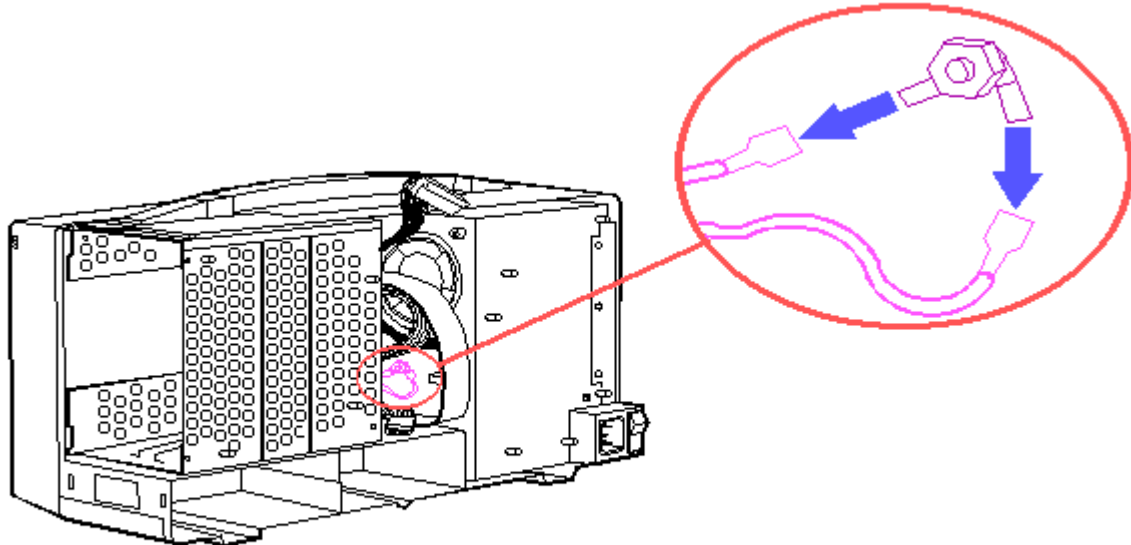

Figure 8-90. Disconnecting the Ground Wires
10. Disconnect the display data cable and display power cable ground wires from the power supply (Figure 8-90).